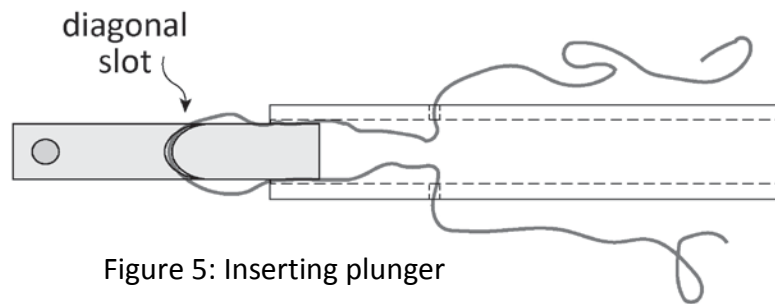

Figure 5: Inserting plunger
10. Slip the loop of the chord though the diagonal slot on the plunger. Pull the ends of the cord as you slip the plunger into the pipe, slot end first. (see figure 5)